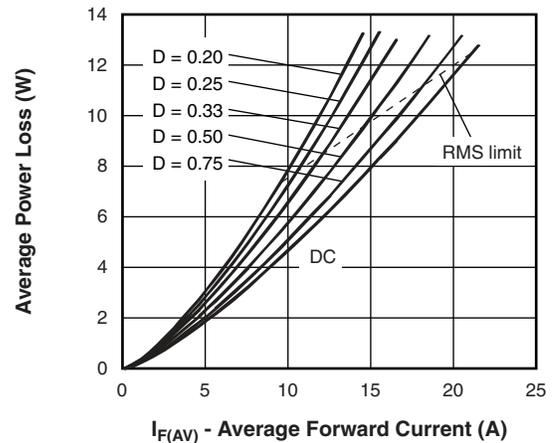

Fig. 6 - Forward Power Loss Characteristics (Per Leg)
- (1) Formula used:  $T_C = T_J - (P_d + P_{d_{REV}}) \times R_{thJC}$ ;
- $P_d$  = Forward power loss =  $I_{F(AV)} \times V_{FM}$  at  $(I_{F(AV)}/D)$  (see fig. 6);